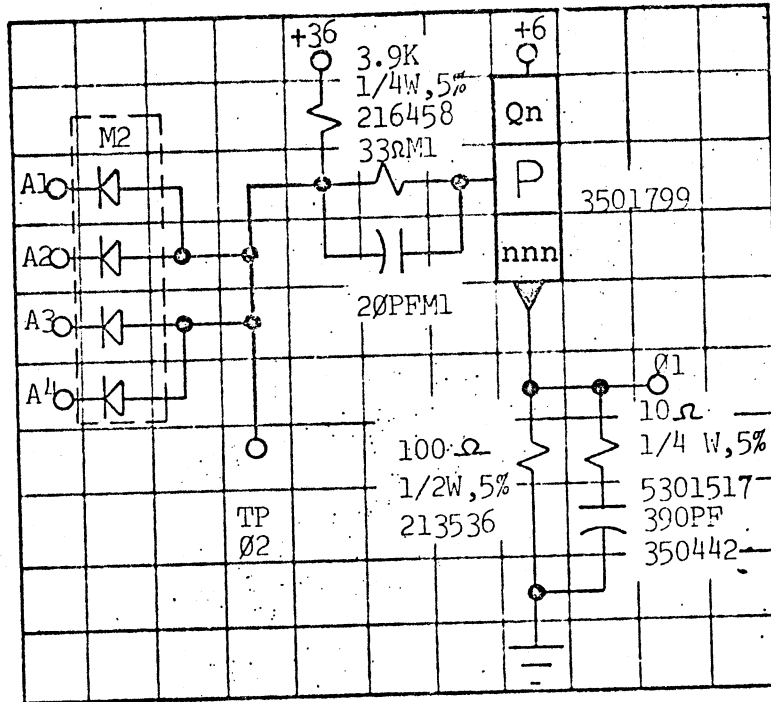

FIGURE 11
- 15.12.1 Voltage Lines - Will be represented by placing a small open circle at the line termination with the voltage polarity and value easily associated with it (See Figure 11.)
- 15.12.2 Ground Lines - Will be represented by placing a ground symbol at the line termination (See Figure 11.)
15.17.7 See example of a typical circuit (Figure 11) for a portion of a circuit contained in an SLT module. You will note the dashed lines drawn between the grid lines around the elements contained in that component. The "M" number must be placed inside the dashed lines to relate the elements to a specific module part number.
- 15.17.11 The representation of resistors and capacitors in this type of module is shown in the example of a typical circuit (Figure 11).